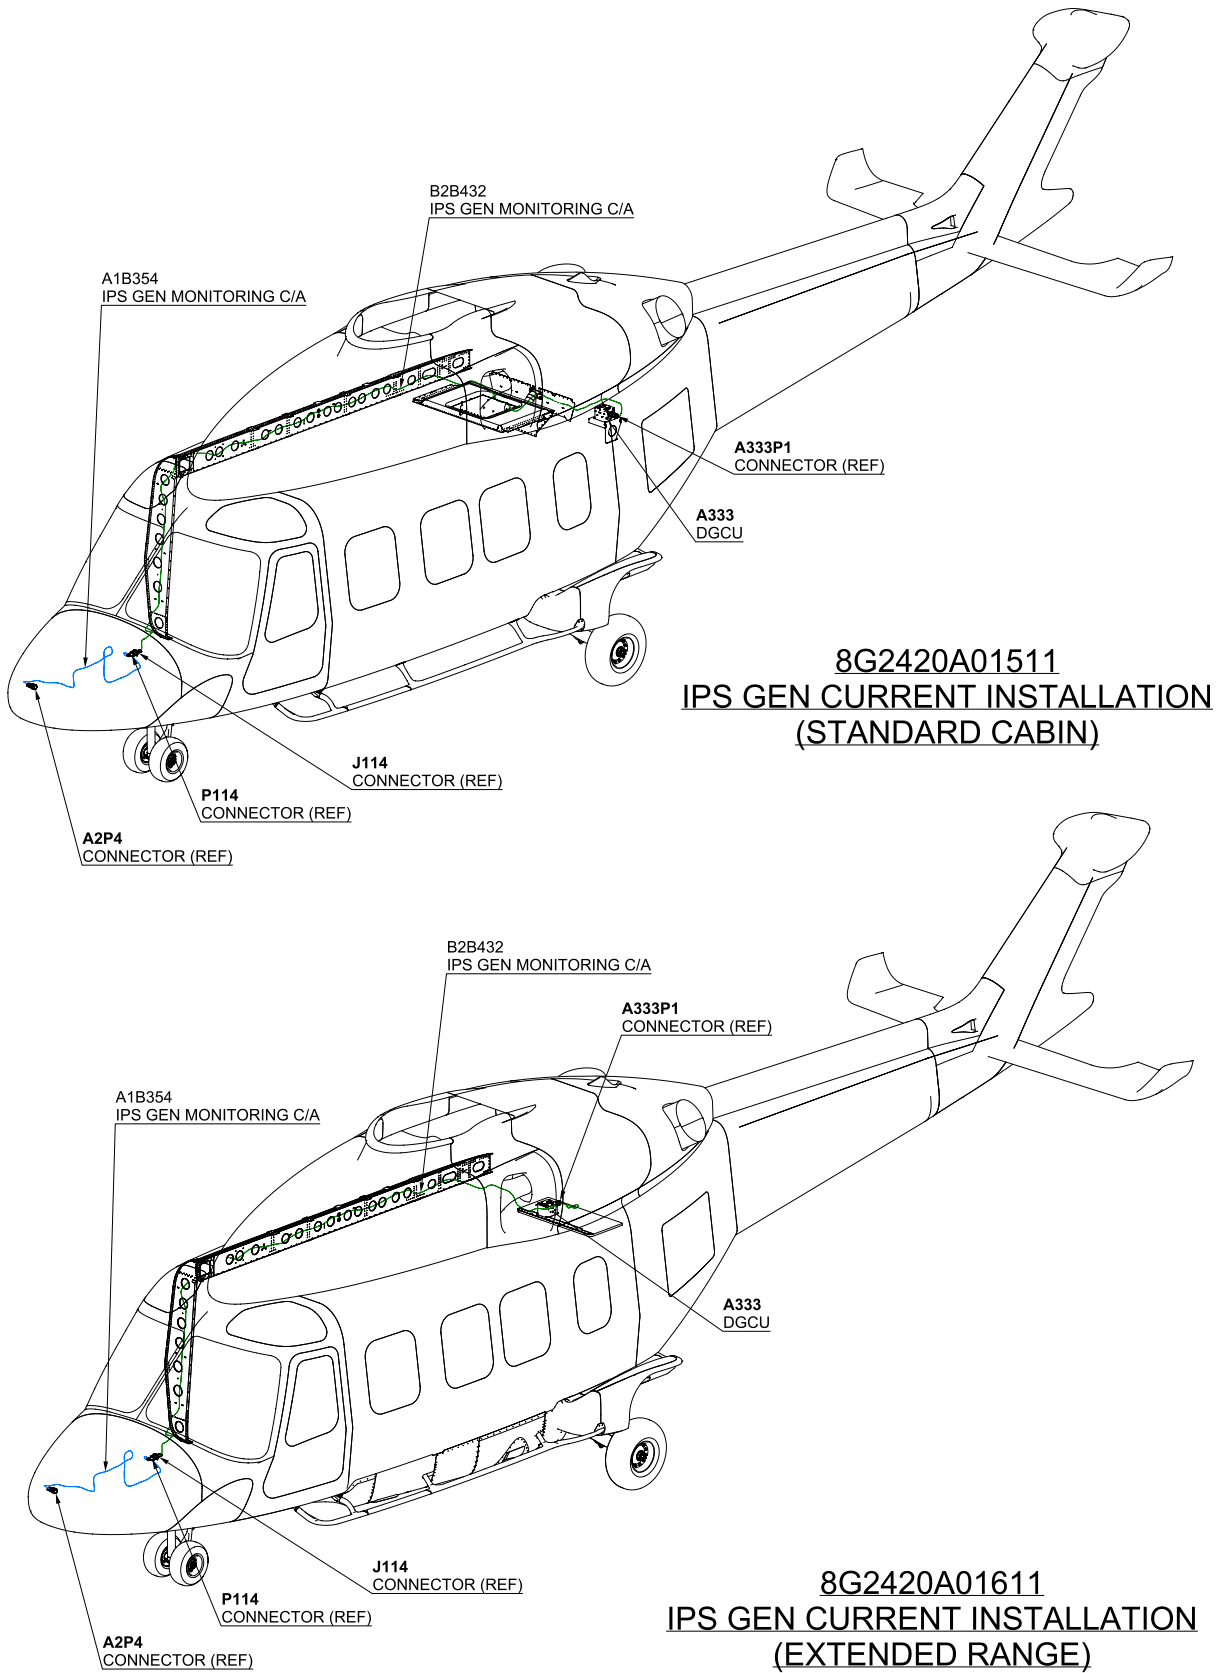

Figure 1
- 2.1 With reference to Figures 1 to 3 route the following cables following the existing routes unless otherwise indicated on the figures: